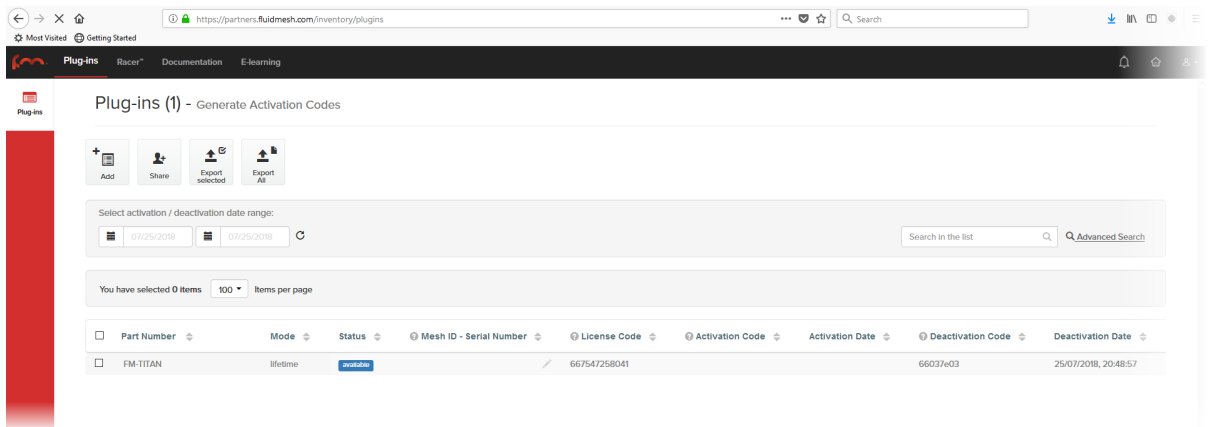

Figure 69. Partner Portal (Plug-ins web page)
- The Plug-ins web page will be shown (Figure 69 \(page 155\)).